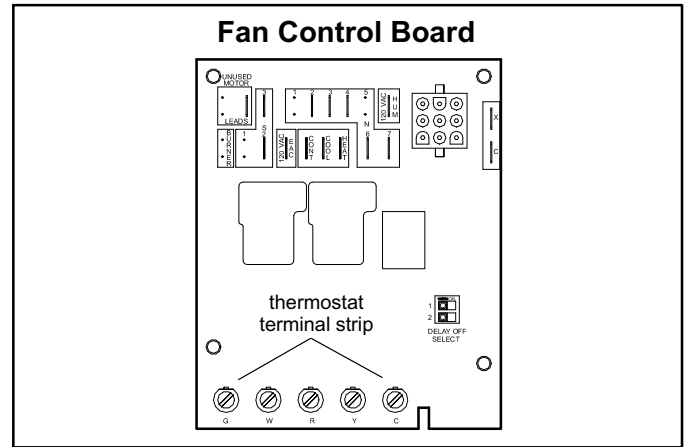

Figure 14
All wiring must conform to the National Electric Code (NEC), or Canadian Electric Code (CEC) and any local codes. Refer to figure 14 for terminal designations on fan control board.
*NOTE - An equipment ground screw is provided. Refer to unit wiring diagram and figure 14 for ELO183B series units. Ground unit using a suitable ground wire.*